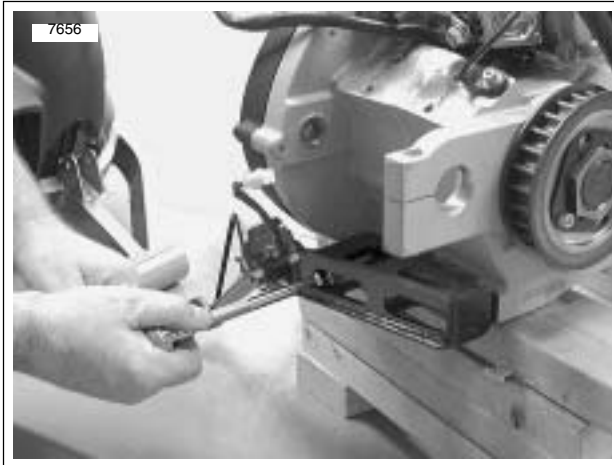

Figure 3-21. Side Stand Bracket
2. See Figure 3-21. Install side stand and bracket assembly. See 2.29 SIDESTAND.